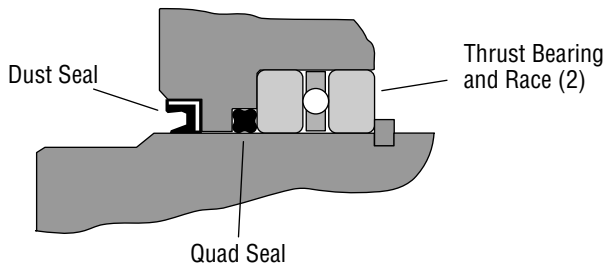

Figure 4
- 11** Lubricate and install the dust seal (see Figure 4 for correct seal orientation).